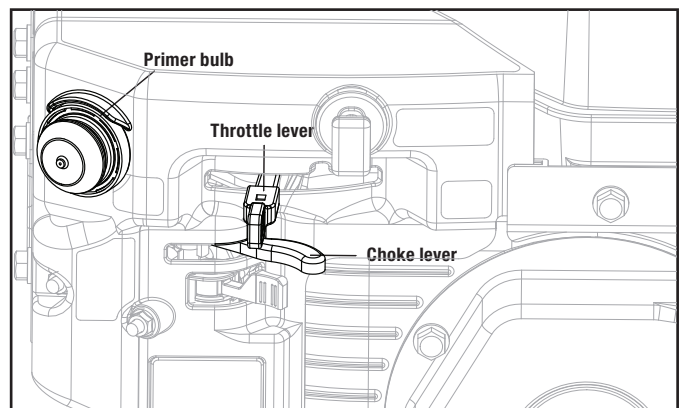

Figure 13B
- 3b. To start a warm engine, leave the choke lever to the run position (Fig. 13B).
4. Move the throttle lever to full speed to start the engine (Fig. 13B).
5. Use primer control depending on unit's temperature (Fig. 13B):
8. When the engine starts, move the choke to run position (Fig. 13B).